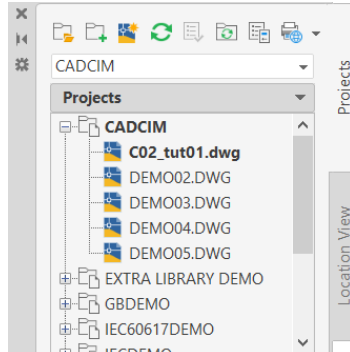

Figure 2-68 The **PROJECT MANAGER** displaying the **CADCIM** project after removing the *DEMO01.dwg* drawing
1. Right-click on the *DEMO01.dwg* drawing and then choose the **Remove** option from the shortcut menu displayed; the **PROJECT - Manager Remove Files** message box is displayed. Choose the **Yes** button in this message box; the *DEMO01.dwg* drawing is removed from the drawing list, see Figure 2-68.